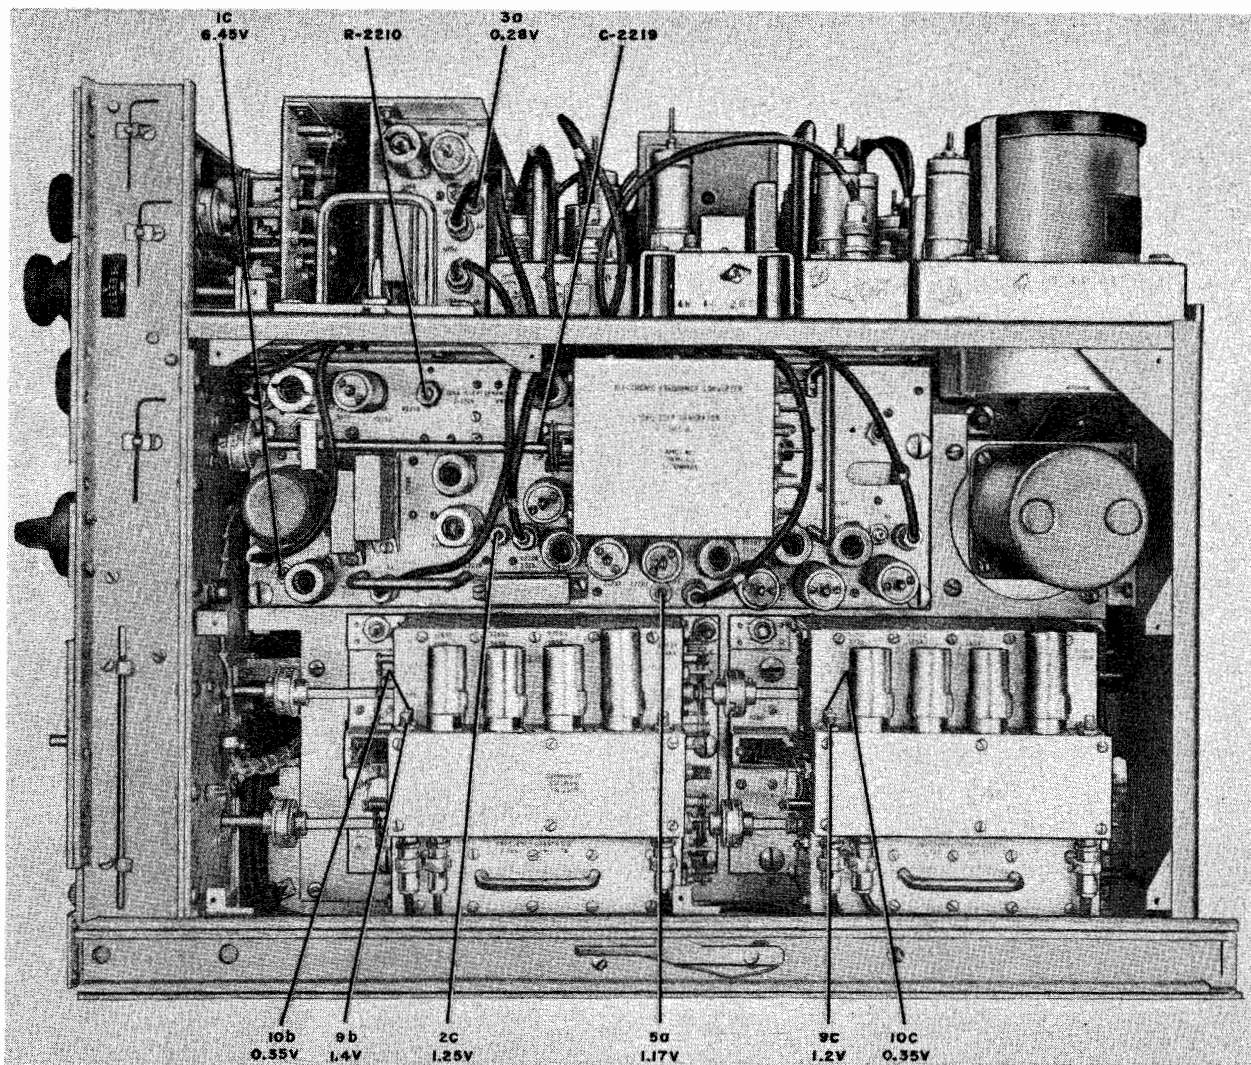

Figure 6-7. RFO, Right Side, Unit Test Jacks, Voltages
*Step 5.* Adjust L-2001 on unit 1 for zero beat. (See figure 6-7 for location of L-2001.) Rotate L-2001 clockwise until beat is heard, then counterclockwise through null until beat is heard again.
Step 3. Adjust R-2210 (see figure 6-7 for location of R-2210) for proper Lissajous pattern, if necessary, as follows:
*Step 5.* Adjust C-2219 (see figure 6-7 for location of C-2219) for correct Lissajous pattern, if necessary, as follows: